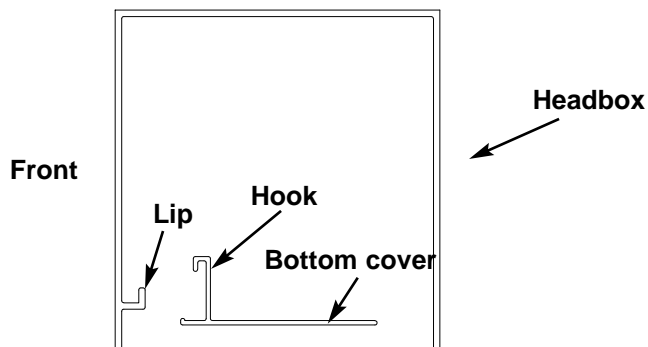

Figure 6. Attaching the headbox cover
2. Raise the cover up into the box. Refer to Figure 6.